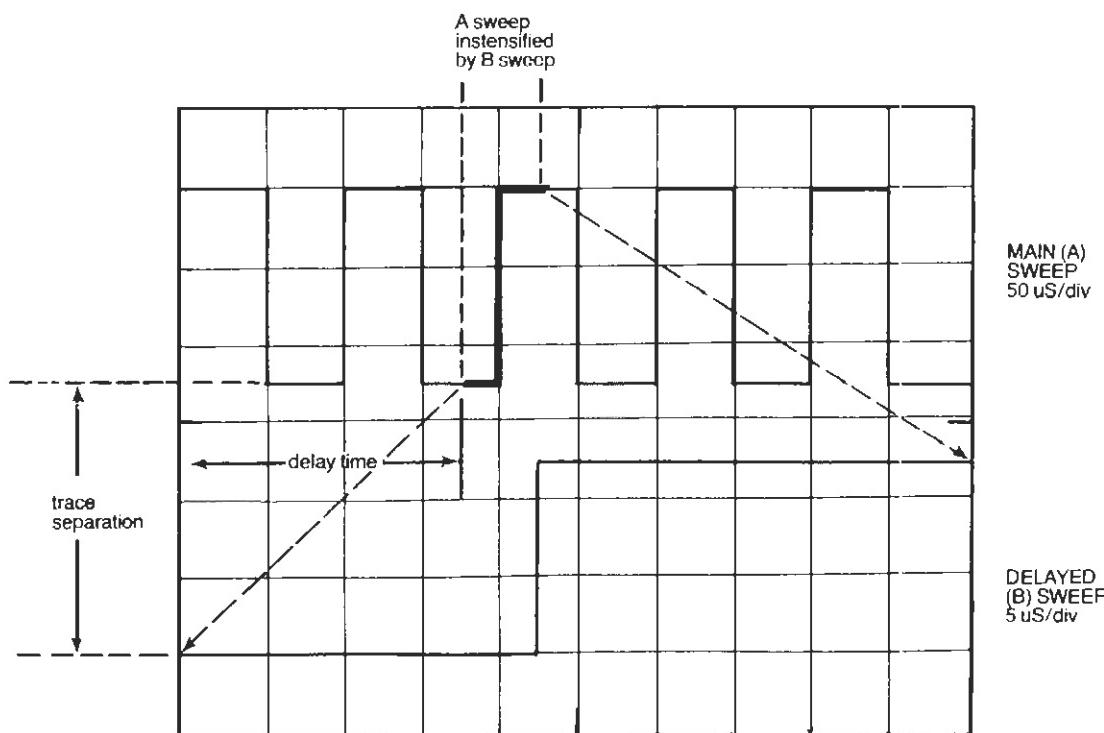

Figure 2-12. Delayed sweep display of one vertical channel
1. Adjust the VOLTS/DIV switch(es) (11) so the trace height(s) does not exceed 4 screen divisions if one vertical channel is used, or 2 screen divisions if both vertical channels are used. This is simply to ensure that there is room for all traces later.
3. Make sure the TRIG'D pushbutton (27) is out, the INTEN control (2) is turned up for a bright display, and the B TIME/DIV switch (21) is set to a faster sweep than is the A TIME/DIV switch.
4. Press the B HOR DISP pushbutton (26) while holding in the A pushbutton (i.e., **both** the A and B HOR DISP pushbuttons must be locked in the recessed position).
5. Use the TRACE SEP control (25) to move the delayed (B) trace(s) to the vacant area(s) above or below the main (A) timebase trace(s).
6. The section of the main (A) timebase trace(s) corresponding to the B sweep time will be brighter than the rest of the main timebase trace(s), as shown in Figure 2-12. Adjust the INTEN control if necessary for a proper display.
**NOTE:** The main (A) trace(s) will look like a partial trace if brightness is insufficient. If the brightness is excessive, the B-intensified portion of the A trace(s) will be indistinguishable from the rest of the A trace(s). Furthermore, the intensified portion of the A trace(s) will be quite small if there is a large difference between the settings of the A and B TIME/DIV switches.
7. Turn the B TIME/DIV switch (21) until the intensified portion of the trace widens to an **amount** equal to the portion of the trace you wish to magnify.
8. Turn the DLV TIME MULT control (23) to **position** the intensification over the portion of the A timebase trace(s) you wish to magnify.
**B Sweep Only.** After you have set the DLV TIME MULT control and B TIME/DIV switch according to the **Alternate Sweep** procedure, you can reduce screen clutter by eliminating the main (A) timebase trace(s). To do this, simply press the B HOR DISP pushbutton again. The A pushbutton will pop out and the A timebase trace(s) will disappear. This allows you to increase the screen height of the B timebase trace(s).